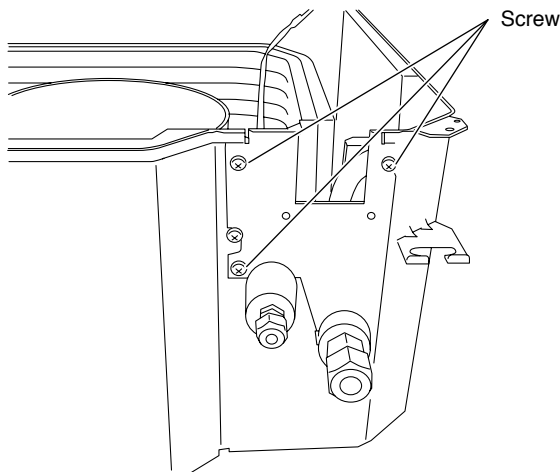

Fig.24
- (1) Remove the 3 screws. (Fig. 24)